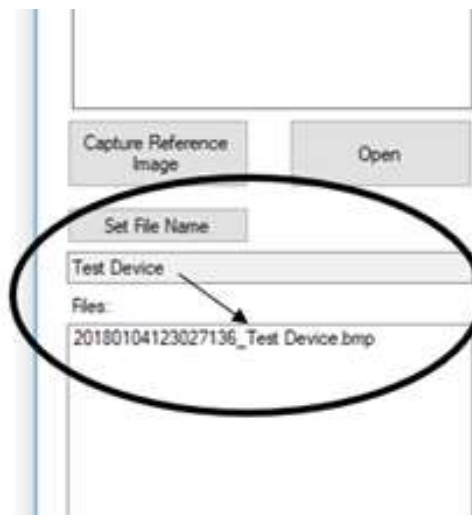

Figure 15A
2. Enter the characters that you would like to be included in the file name. **Fig. 15A**